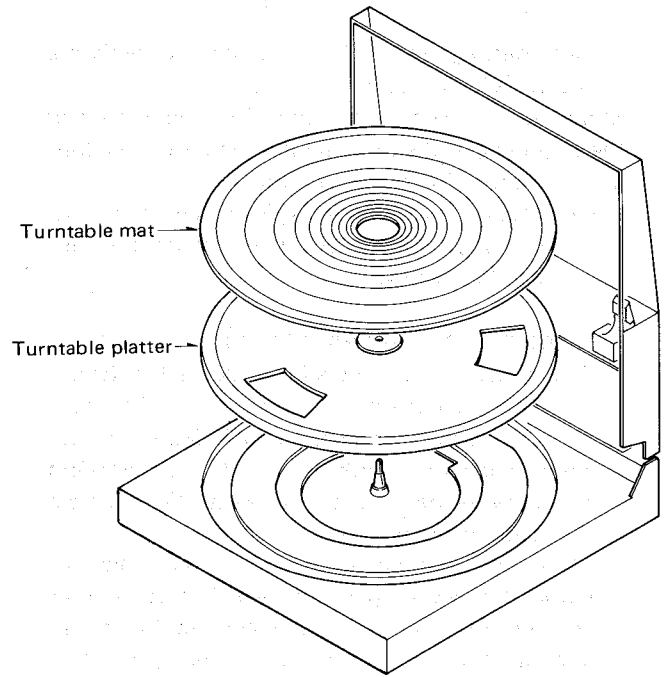

Fig. 2
### Operation of SL-J3 (See Fig. 2.)
- When stylus tip is lowered as in Fig. 2-①, ③ on deflected record, muting turns OFF after detection of blank by speed detector, and there is no head-missing.
2. Remove the turntable mat, and lift the turntable platter. (Fig. 2)